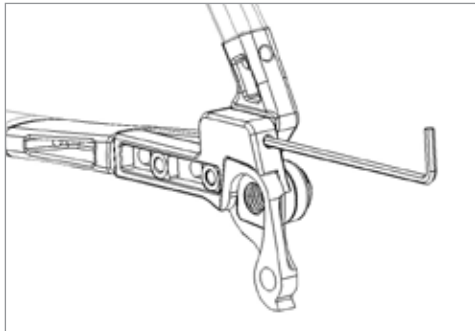

Figure 5
8. Using a 3 mm hex wrench, turn both M4 bolts clockwise until the dropout plates are set all the way forward (Fig. 5)